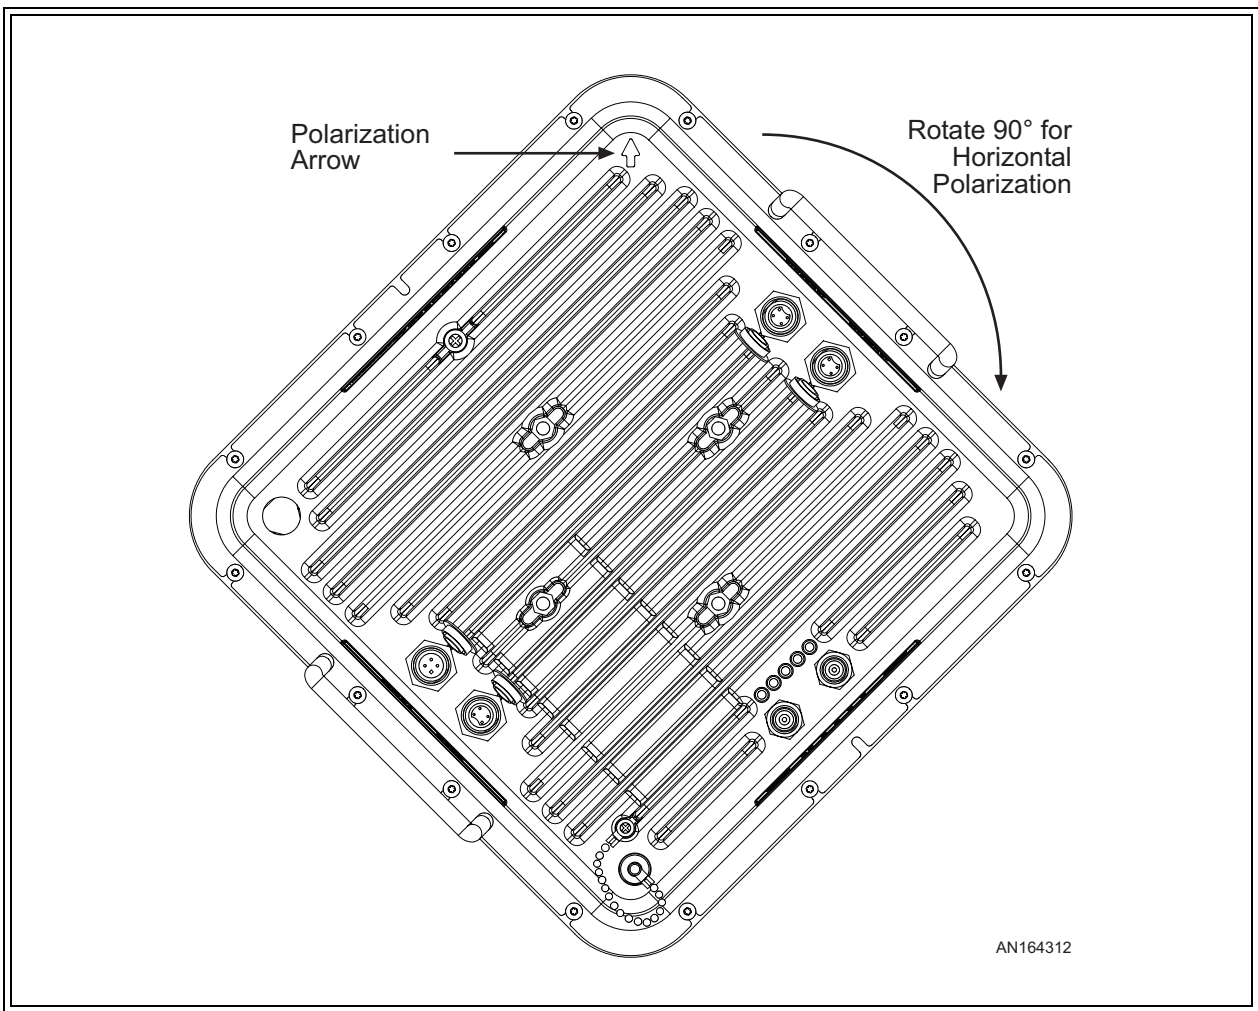
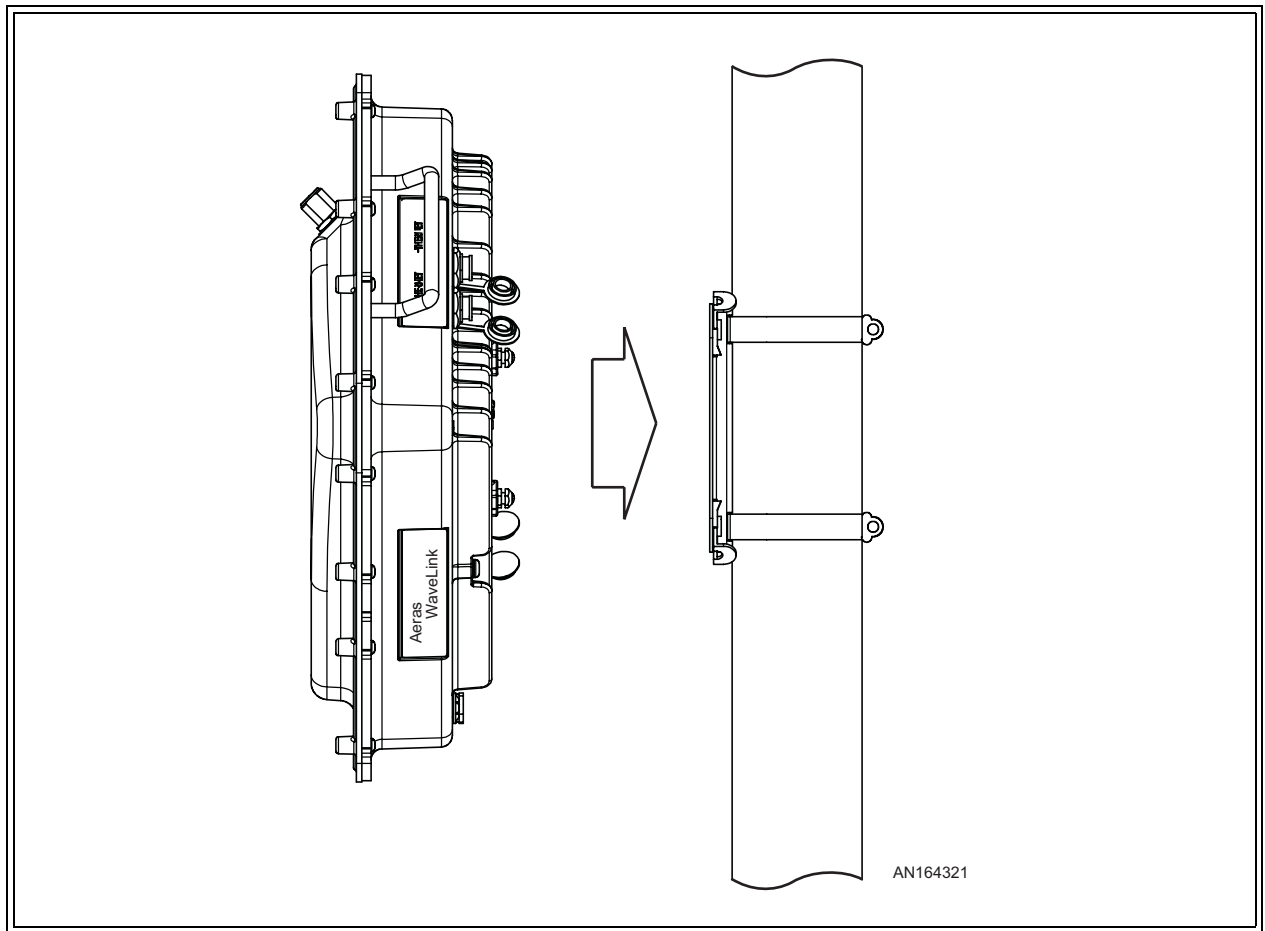
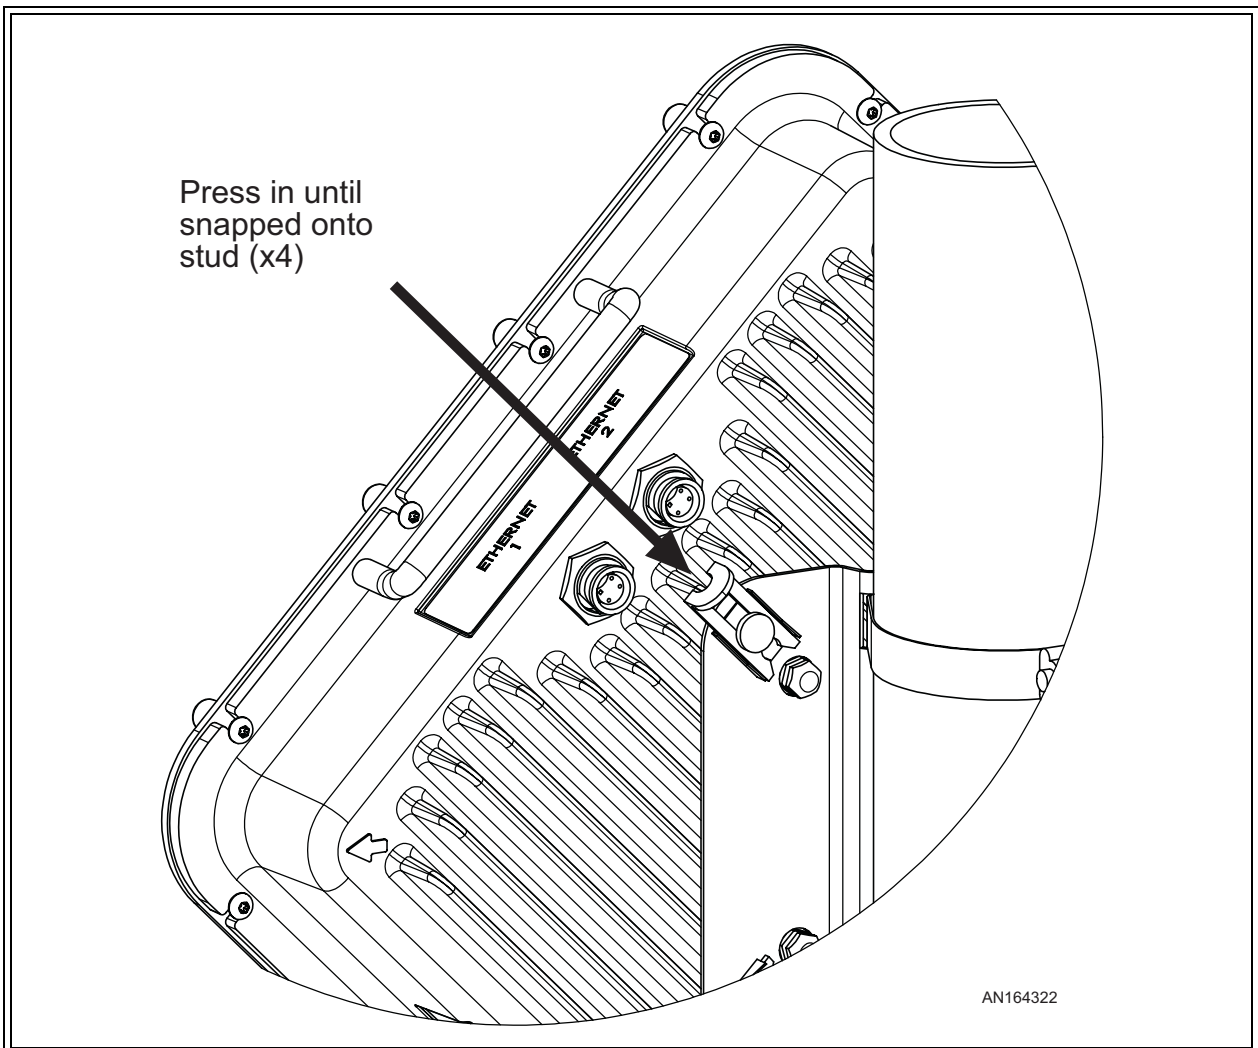

Figure 4-14 Setting the Aeras WaveLink Polarization -- Vertical Polarization Shown
Figure 4-15 Attaching a 5.8 GHz Aeras WaveLink to a Typical Mounting Bracket
Figure 4-16 Locking the Slide Clips
- See Figure 4-14. The Aeras WaveLink case is embossed with an arrow indicating the integral antenna polarization. Point the arrow up for vertical, and sideways for horizontal polarization.
- 31** See Figure 4-14, Figure 4-15 and Figure 4-16.
- 32** Orient the Aeras WaveLink as shown in Figure 4-14, and align it with the mounting bracket as shown in Figure 4-15. Note that the four mounting studs on the Aeras WaveLink should line up with the four slide clips on the bracket as shown in Figure 4-16.
- 33** Secure the Aeras WaveLink to the bracket using the four (4) slide clips on the bracket as shown in Figure 4-16.